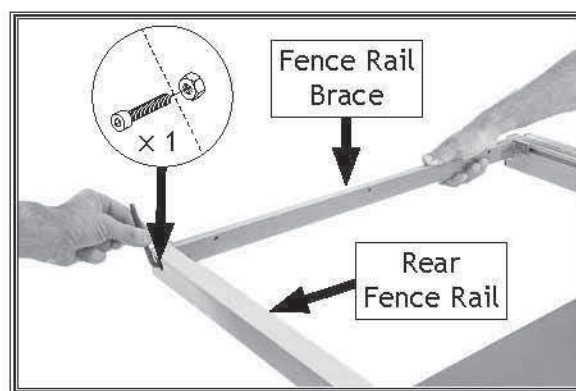

Figure 31. Attaching rear end of fence rail brace.
28. Using a helper, mount fence rail brace to rear fence rail with (1) M8-1.25 \times 16 cap screw and (1) M8-1.25 hex nut (see Figure 31).